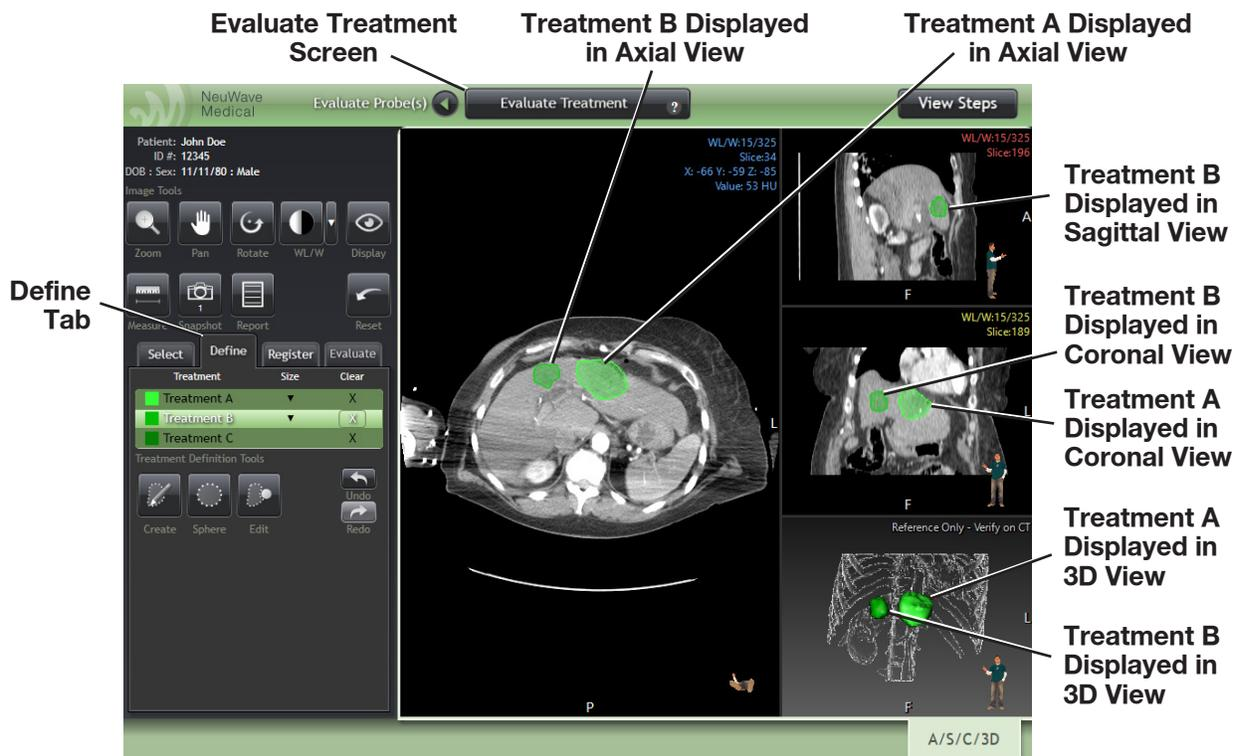
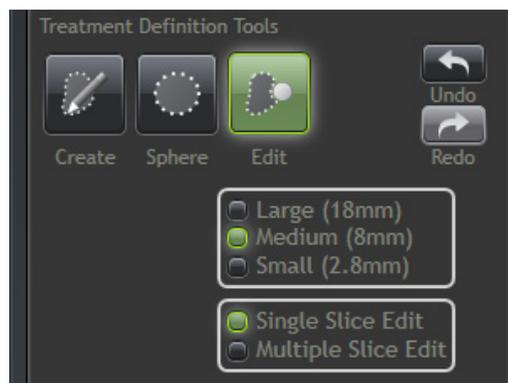
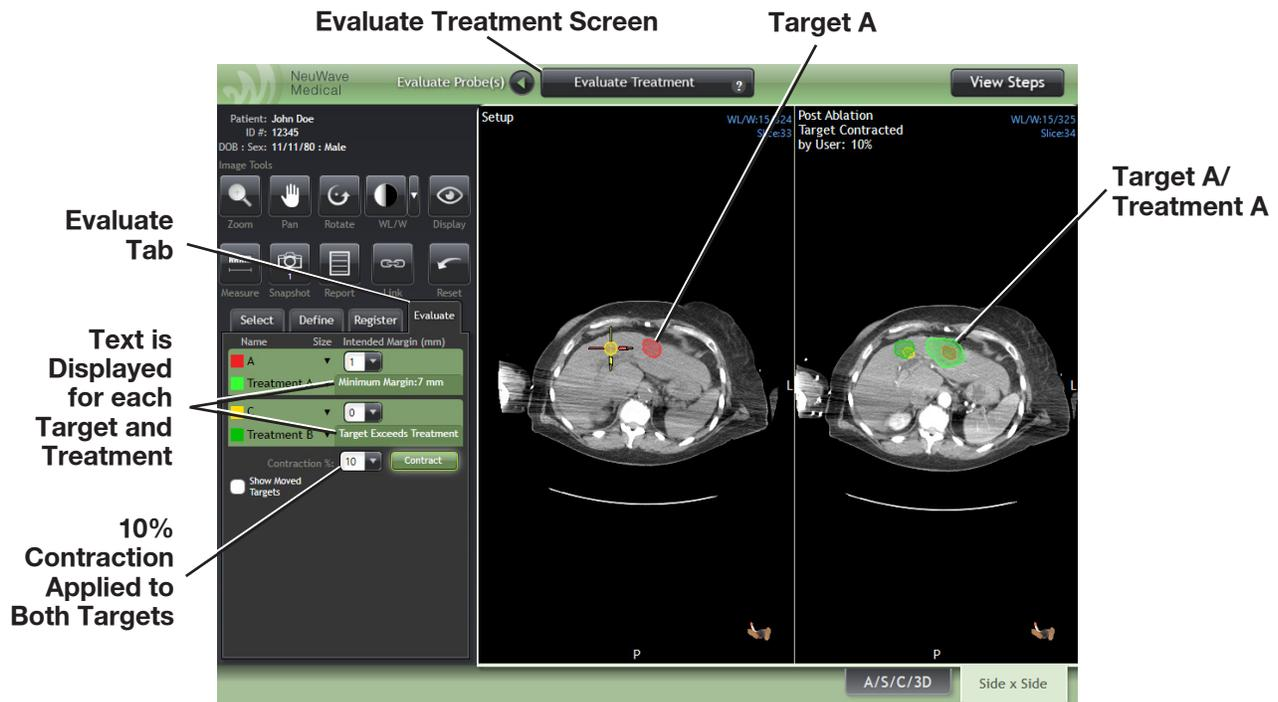

Figure 3-38: Defining the Treatment Zone.
Figure 3-39: Treatment Definition Tools Panel under the Define Tab of the Evaluate Treatment Screen.
Figure 3-41: Side x Side Axial View comparison of the Setup CT Series (10% contraction not applied) and the Post-Ablation CT Series (10% contraction applied)
- Click on the **Define** tab so that you can define the treatment zone around the lesion created by the delivered microwave energy. You can define up to three treatment zones in an image series. Treatment zones are named Treatment A, B and C under the **Define** tab (Figure 3-38).
- On the left side of the screen, click **Create** or **Sphere** in the Treatment Definition Tools panel and then move the mouse pointer to a 2D Image View to begin creating the treatment zone. Using the **Create** tool, in the active 2D Image View, move to a slice near the center of the treatment zone using the **Zoom** tool. Try to center the mouse over the area that has been treated. The **Create** tool previews the area by creating a green outline where the tool pointer is placed. Based on where the preview area is displayed, the tool outlines adjacent tissue areas of similar density (Figure 3-38).
If you want to refine the treatment zone, click the **Edit** tool in the Treatment Definition Tools panel (Figure 3-38) and then move the mouse pointer to the zone you just defined. The process of removing or expanding the treatment zone using the **Edit** tool is no different from the process of removing or expanding the size of target areas in the **Define** tab of the **Define Targets** screen (Figure 3-16 and Figure 3-17). The only difference is that the Treatment Definition Tools do not include a **Move** tool (Figure 3-39).
1. Advance to the **Evaluate** tab in the **Evaluate Treatment** screen and scroll through the image slices to locate the treated area (Figure 3-41).
1. The **Contraction %** field in the **Evaluate** tab allows the user to specify the tissue contraction effect (Figure 3-41, left panel).
3. Click the **Contract** button and review the changes in the minimum margin displayed for each treatment zone (Figure 3-41, left panel).
Targets defined in the Setup CT series are shown in Figure 3-41 as red (Target A) and orange (Target B) circles (central panel), whereas targets and treatment zones are shown as green areas in the Post-Ablation CT images (right panel). A target lesion contraction of 10% was applied to both treatments. A minimum margin of 2 mm without contraction (as displayed in Figure 3-38) increased to 7 mm for Treatment A, whereas Treatment B remained insufficient to fully cover the target. The minimum margin is the distance between the edges of the target and the treatment zone.